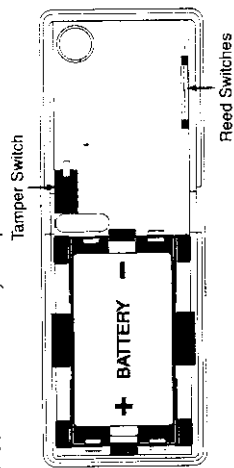

Figure 1
1. Observe the correct polarity (see Figure 1).
Before mounting the unit, remove the circuit board. Pull the tab located next to the battery compartment. Gently lift the circuit board out of the plastic (see Figure 1).